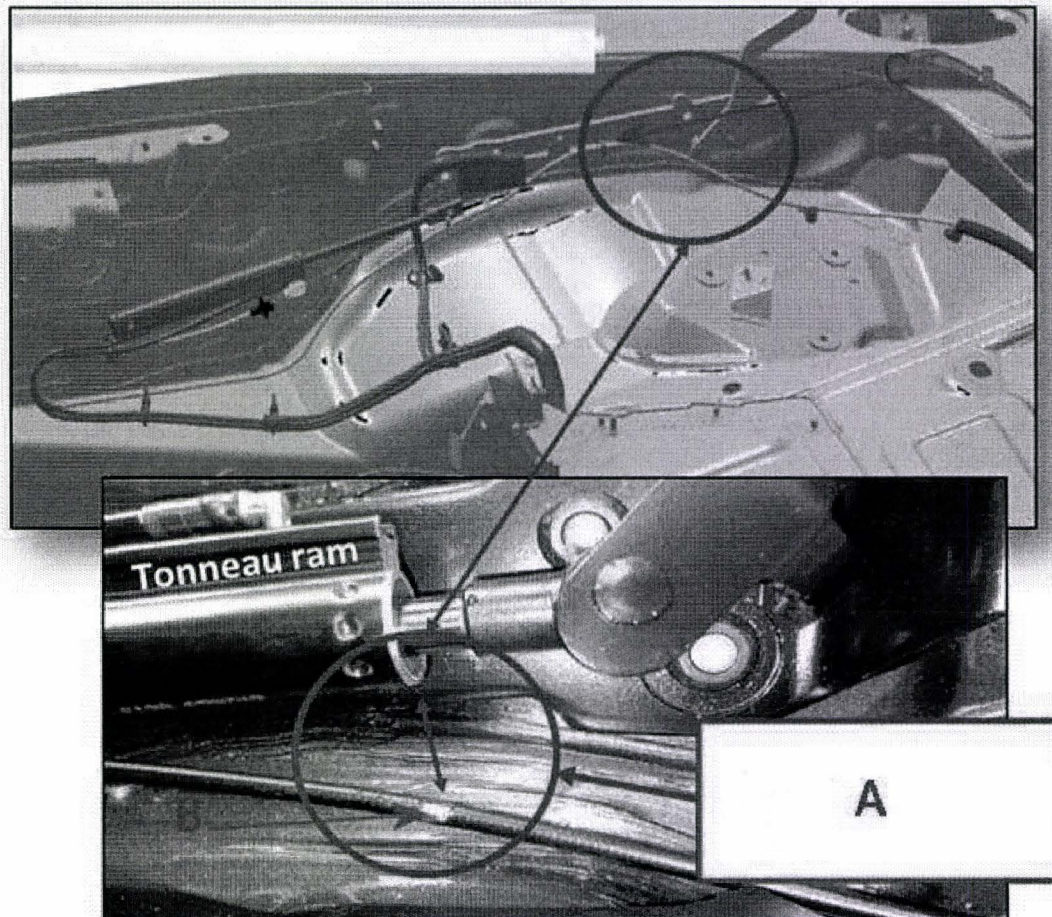

Figure 1
A potential compression point has been identified between the tonneau cover hydraulic ram and the C flap Bowden cable as it routes under the tonneau cover drive system (see Figure 1). A revised clip arrangement has been specified to avoid this compression damage. In severe cases the damage to the Bowden cable is such as to impair correct operation of the C flap, therefore a test of the C flap function is required to ensure the Bowden cables are serviceable before implementing the revised clip arrangement
- Figure 1 details the original routing and single cable tie (C) securing the Bowden cable (shown in yellow). The detail at point A shows the potential contact point between the tonneau cover hydraulic ram and the Bowden cable. The actual contact takes place when the tonneau is almost closed and therefore the close proximity of the hydraulic ram and the Bowden cable cannot be seen when viewed with the tonneau cover in a transient position. Detail B shows, in this case, a section of the outer sheath of the Bowden cable that has been removed by repeated contact with the ram.